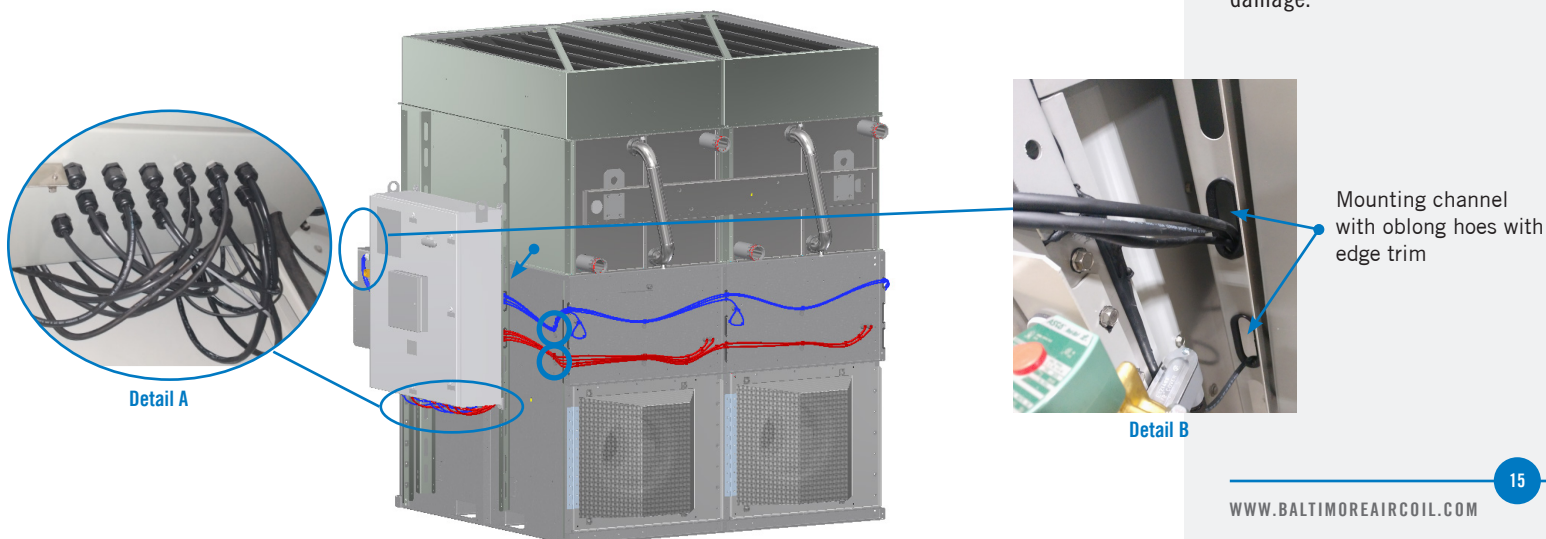

Figure 17. Wire to the iPilot™ Control System Panel
6. Route the fan power wire through the bottom oblong hole with the edge trim on the control panel mounting channel. Pull each wire through each cord grip at the bottom of the control panel, then connect each connector of wire to the correct terminal block position. See **Figure 17**.
7. Route the fan communication and component wires through the oblong hole with edge trim on the control panel mount channel. Pull each wire through each cord grip at the bottom of control panel, then connect each connector of wire to the correct terminal blocks position. See **Figure 17**.